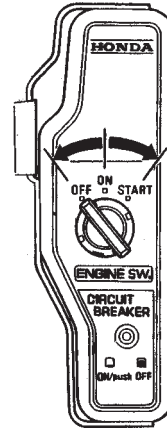

Figure 32. Engine Ignition Switch (OFF Position)
4. Place the *Engine ON/OFF switch* (Figure 32) in the "OFF" position and remove the key. Place the key in a safe place.